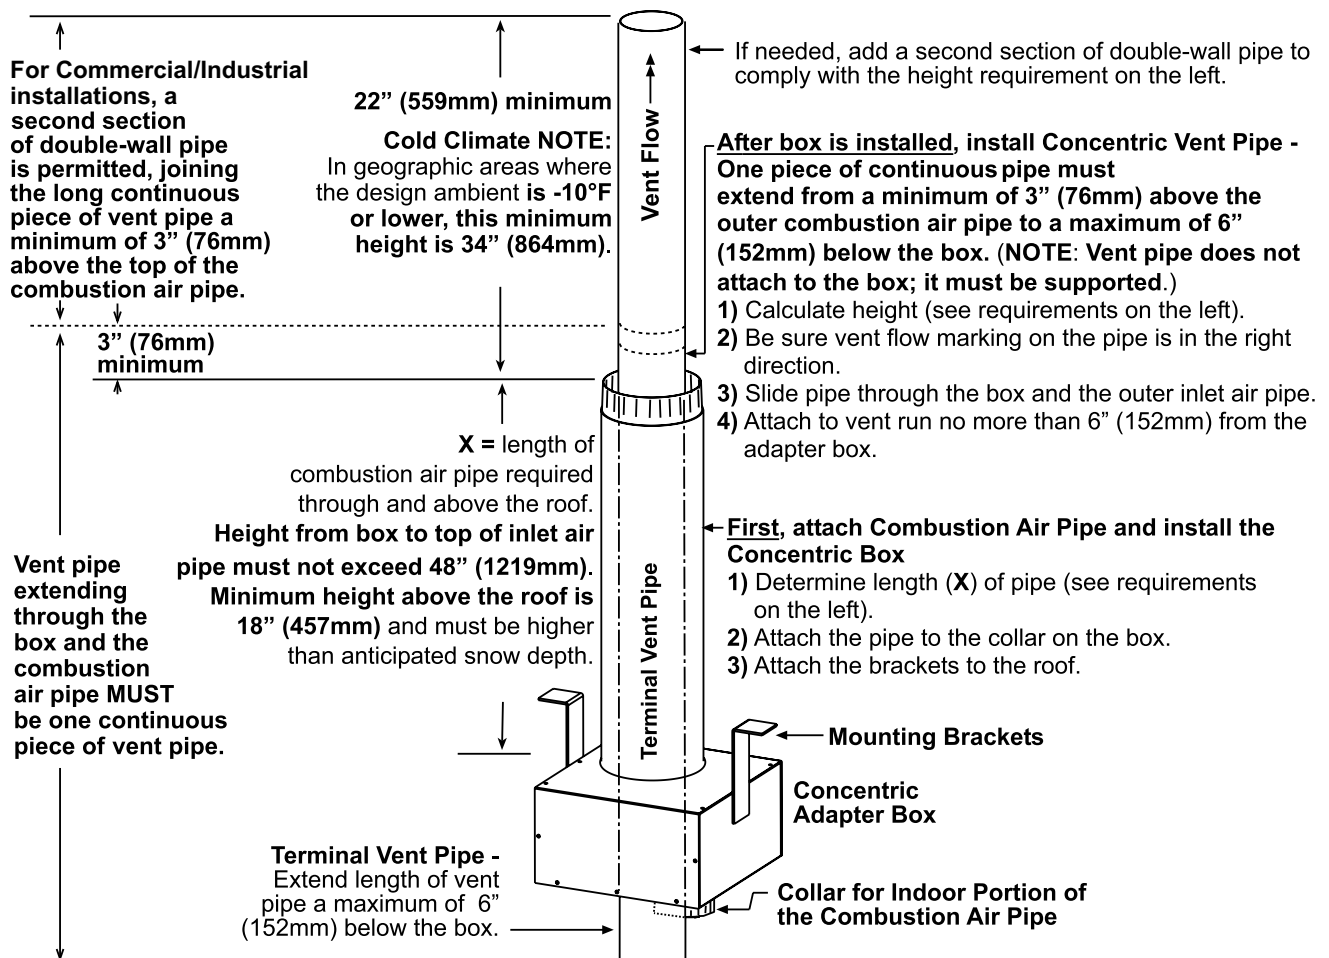

Figure 9. Combustion Air Pipe Installation
5. Connect outside section of combustion air pipe to concentric adapter box (see Figure 9):
- a. Determine length of combustion air pipe so that dimension X in Figure 9 is equal to bracket length, plus roof thickness, plus anticipated snow depth. Ensure that length of combustion air pipe does not exceed 48 inches (1,219 mm) or does not extend *less than* 18 inches (457 mm) above roof.
6. Secure concentric adapter box to underside of roof (see Figure 9):
- a. Refer to Figure 9 to determine required length of continuous section of vent pipe. Determine length as follows: **1)** start with no more than 6 inches (152 mm) below concentric adapter box, **2)** plus 6 inches (152 mm) through box, **3)** plus length of bracket extending above box, **4)** plus width of roof, **5)** plus height of combustion air pipe above roof, **6)** plus minimum of 3 inches (76 mm) beyond top of combustion air pipe—total is minimum length of vent pipe section.